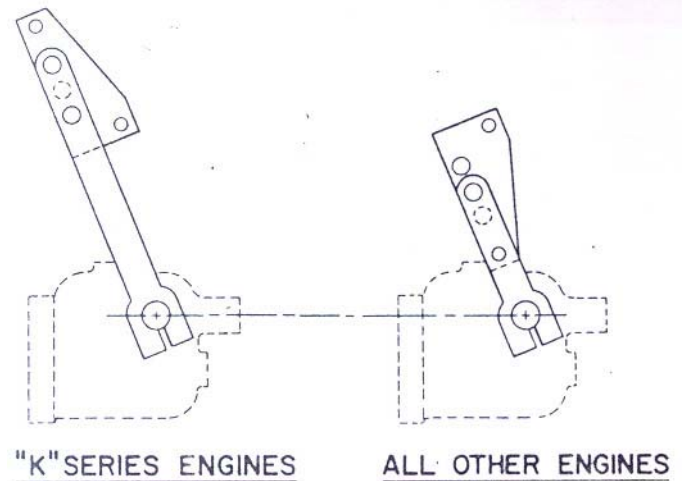

Figure 1
1. Attach lever adaptor (2) to throttle lever using screws (10 & 12), lock washers (14 & 16), and nuts (11 & 13). See Figure 1, which shows the two different types of levers used with Cummins Engines.
2. Insert Pin (5) into adaptor and secure with lock washer (14) and nut (11).
3. Attach cable to clamp bracket (6) using clamp (7), screws (17), lock washers (18), and nuts (19). Be sure that clamp fits into groove of cable hub.
4. Attach bracket support (3) to pump sensor using screws (9) and lock washers (14). Thread set screw (8) into bracket support.
5. Install assembled cable and clamp bracket (6) over long leg of mounting rod (1) and insert short leg of rod into bracket support (3).
7. Thread terminal eye (4) onto cable rod approximately 9/15", and attach to terminal pin (5). Secure with retaining ring.
8. Position clamp bracket (6) on mounting rod (1) for final adjustment and secure bracket with screws (10), lock washers (14) and nuts (11).